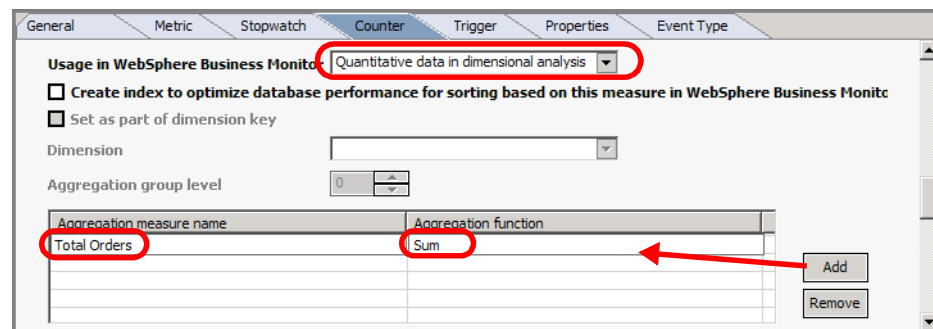

Figure 8-30 Preparing counters for dimensional analysis
- ▶ Select the *Counter* tab, then select each counter. Select *Quantitative data in dimensional analysis* and add an aggregation measure (Total Orders, Total Shipped Orders, Total Declined Orders) and select the *Sum* function (Figure 8-30).